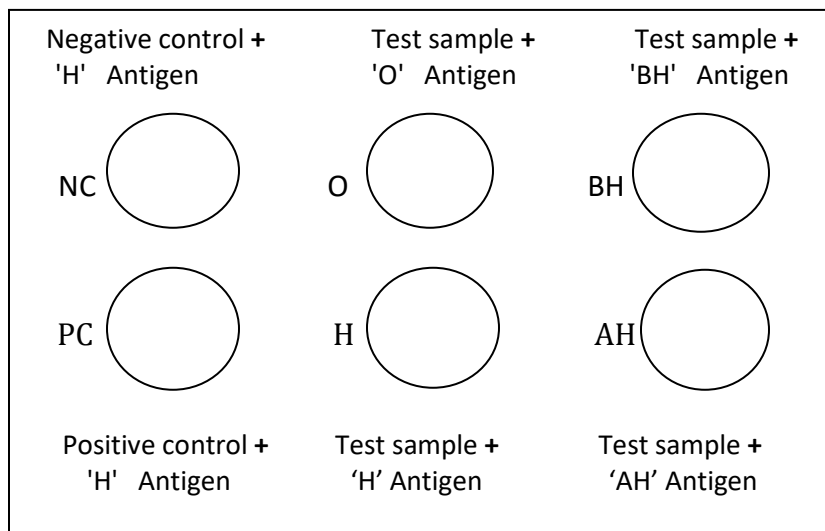

Fig 2: Diagrammatic representation of Widal Slide test
2. Mark the circles of slides as PC (Positive control), NC (Negative control), O, H, AH, BH as per antigen solutions used for testing (as shown in figure 2).